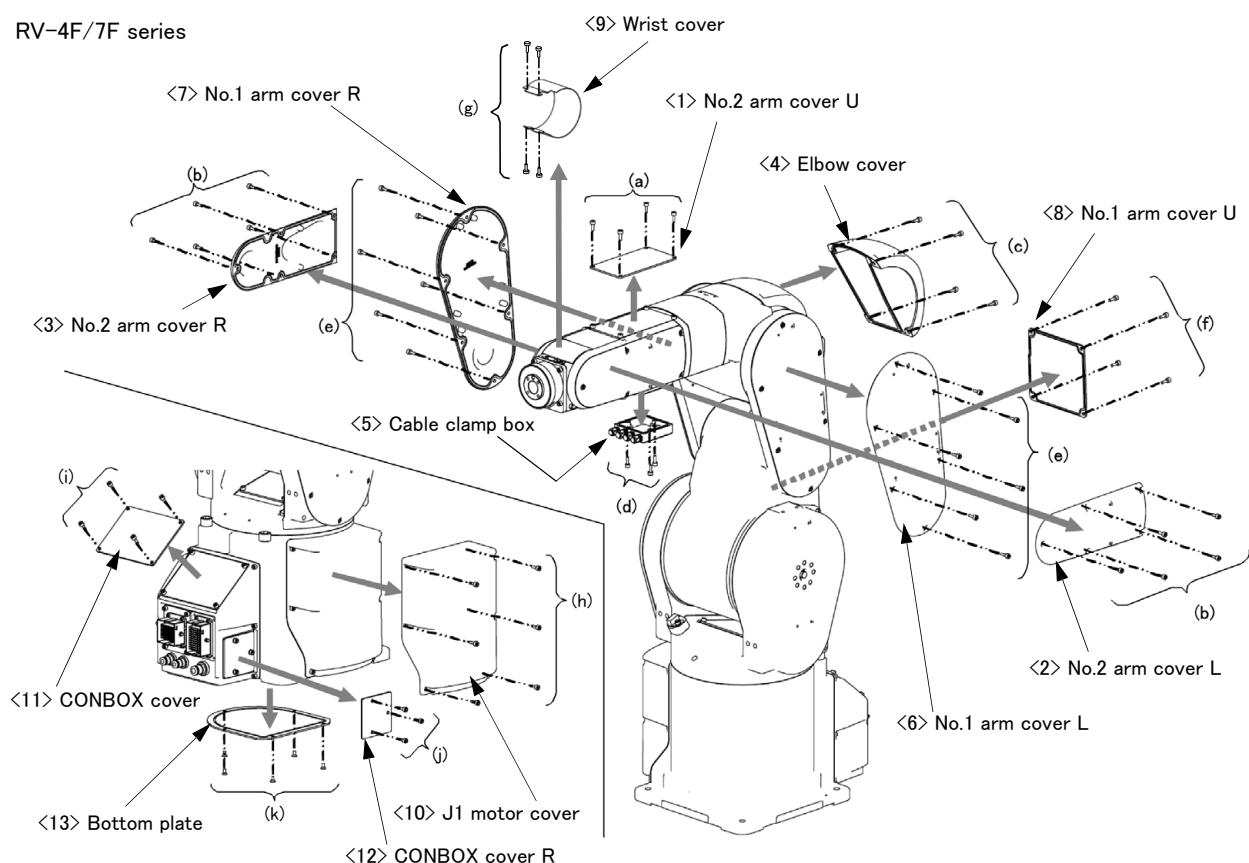

Fig.5-4 : Installing/removing the cover (RV-4F/7F series)
(1) Refer to Fig. 5-4 (RV-4F/7F series) or Fig. 5-5 (RV-13F series), and remove the covers.
(3) Depending on the robot's posture, some covers are hard to be removed. In such a case, change the robot's posture by performing jog operation to remove the covers.
(4) When removing the wrist cover, move the J5 axis to the position of +90 degrees by jog operation.
(5) When attaching the cover after maintenance and inspection, use the detaching procedure in reverse.
The part Nos. and symbols in Table 5-3 correspond to Fig. 5-4 (RV-4F/7F series) or Fig. 5-5 (RV-13F series).